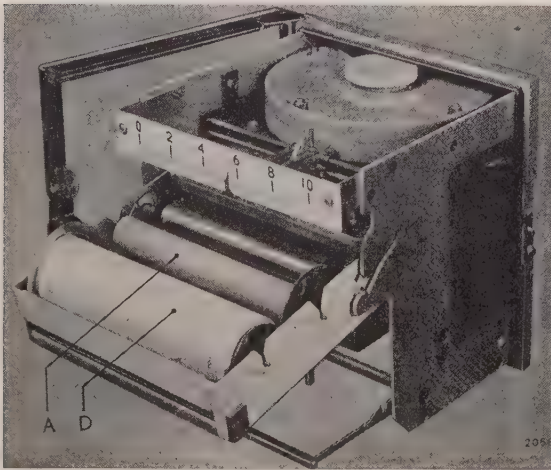

Fig. 24. Cassette placed in the slots of the frame in reverse position
3. Place the cassette in reverse position in the slots of the frame, see Fig. 24.